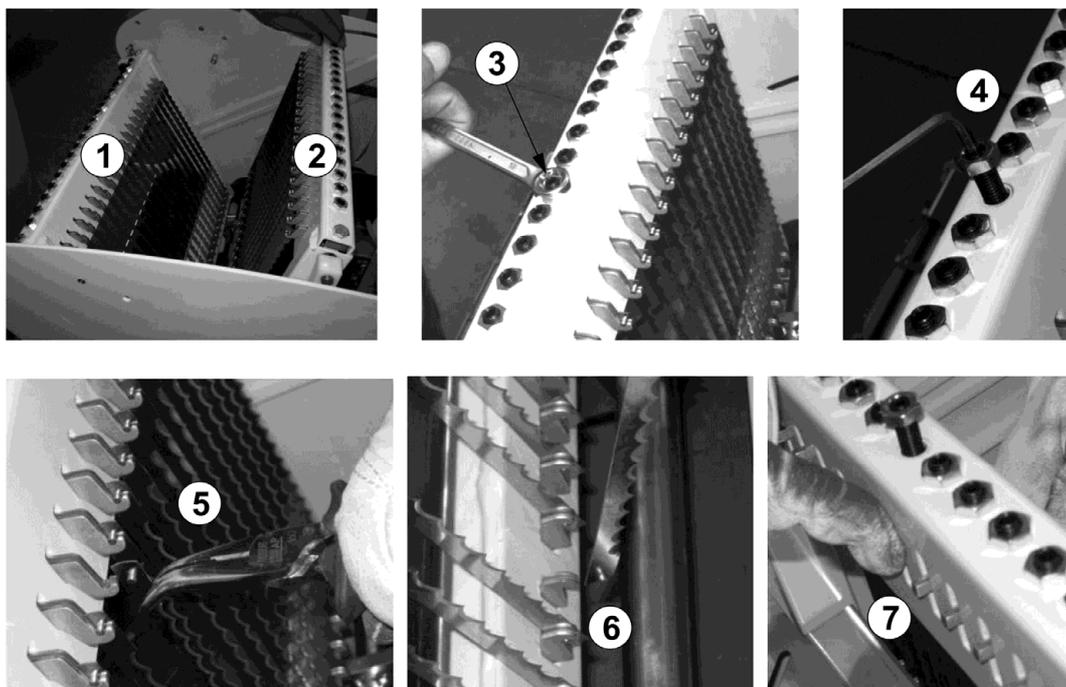

Figure 13
12. Open the two blade support frames, ref. 1 and ref. 2 Figure 13 “like a book”, pushing back the rear frame ref. 2;
13. Loosen the stop nut ref. 3 of the blade to be changed and, with an Allen wrench, loosen as much as necessary the tightening screw ref. 4 Figure 13;
14. Grip the blade to be replaced with a pair of pliers and free it from the hooks ref. 5/6 Figure 13; put the blade in a safe place so there can be no risk of cuts if it is touched accidentally.
17. Return the frame ref. 2 Figure 13 to its original position and reposition the connecting rods on both sides, fixing the respective screws (remember to insert the plastic spacers);